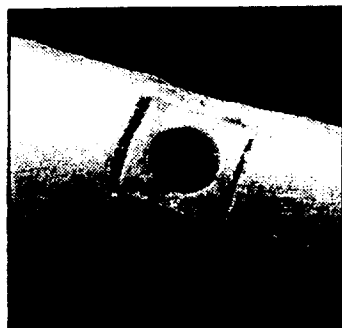

Fig. E.4
- 4. Fitting the Protective Felt Pad in the Cast Window.** The square felt pad with a center hole and the round felt plug should be placed in the window directly on the patient's skin. Thin the felt pad to the thickness of the cast by peeling off appropriate layers and place it back in the window. Remove the round felt plug and peel it to the same dimension as the felt pad. Save it for later use in the installation instructions (Fig. E.4).